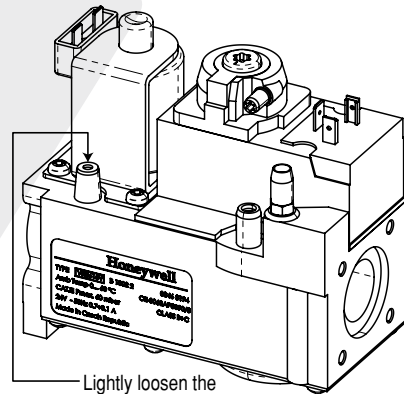

Figure 16.
**CAUTION!** This appliance is equipped with an unconventional gas control valve that is factory set with a manifold pressure of  $11 \pm 5$  kPa. Installation or service must be performed by a qualified installer, service agency, or the gas supplier. If this control valve is replaced, it must be replaced with an identical control. The combination gas valve incorporates dual shut-off valves and a negative-pressure regulator. For proper operation, the regulated pressure at the outlet manifold of the valve must be  $11 \pm 5$  kPa below the reference pressure at the blower mixer inlet, and the gas valve 'VENT' tap must be connected to the end cap air orifice as shown in Figure 16. **DO NOT attempt to adjust the gas input by adjusting the regulator setting. The correct gas regulator setting is required to maintain proper combustion and must NOT be altered.**